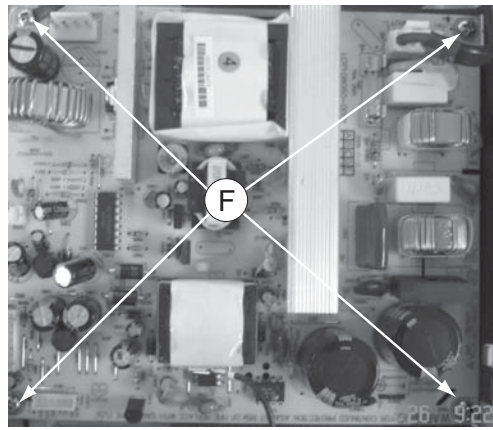

Figure 9
- 1) Loosen 4 screws "F" on the top of Power Board as shown in figure 9.